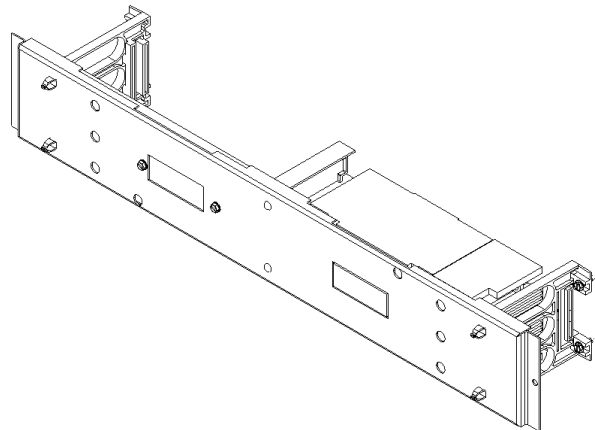

Figure 5. Breaker attached to the filler plate.
- 5. Attach the breaker to the cover.** Snap the assembled circuit breaker cover over the flexible prongs on the filler supports, as shown in Figure 5.